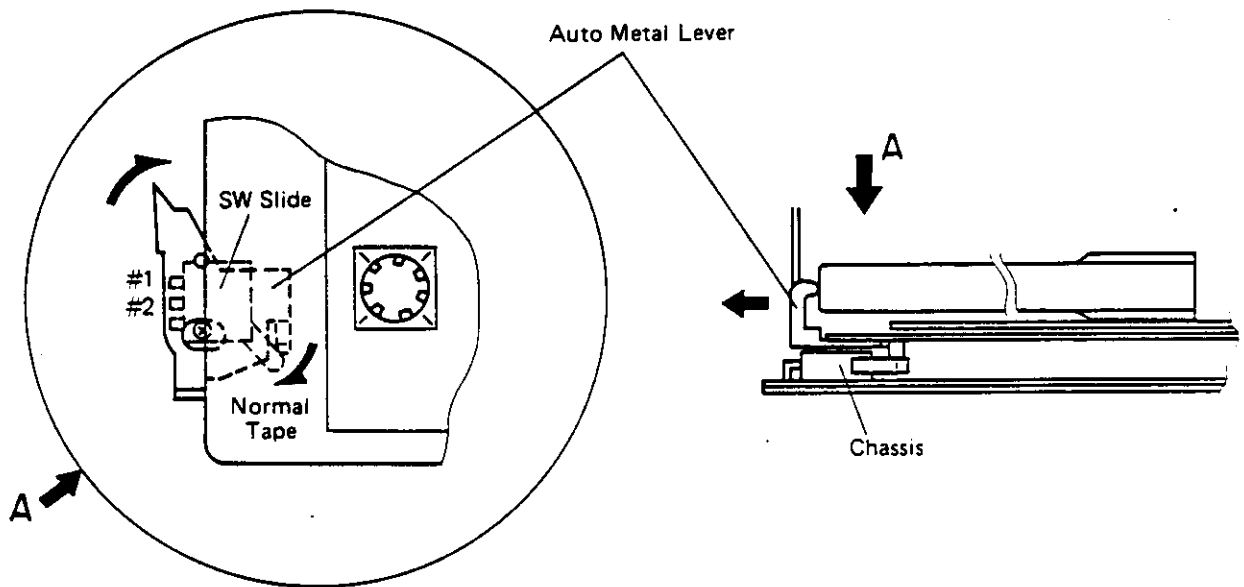

FIGURE 4-7. AUTO METAL IDENTIFICATION
9. Auto Metal - When a cassette with a cutout (opening) for identifying a metal tape, the claw of Auto Metal Lever slides into the cutout, and #1 and #2 of SW Slide opens, thus indicating "metal". While, when a normal tape is loaded, the claw of the Lever is pressed outward, shorting #1 and #2, thus operating the circuits related to the normal tape. That is, the switch is used to automatically switch equalizer circuits for the metal/chromium tapes (see Figure 4-7).